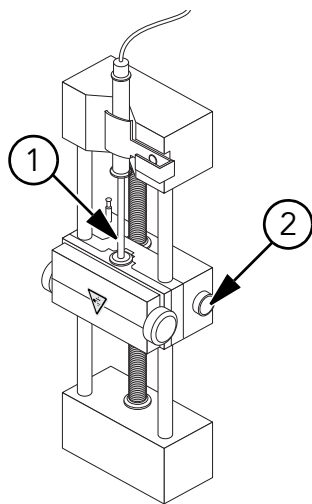

Figure 1-4 Lowering the syringe
1. Press the button on the right side of the syringe pump to lower the base and then insert the syringe as shown in Figure 1-4 Lowering the syringe.